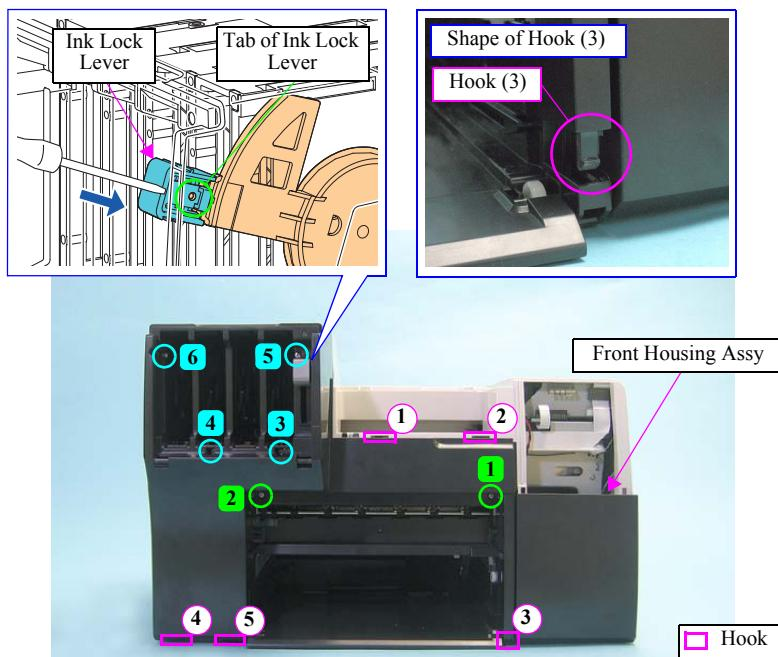

Figure 4-35. Removing the Front Housing Assy (1)
(The numbers in shown in Figure.4-35 indicate the order of tightening the screws.)
- When installing the Front Housing Assy, properly engage its hooks shown in Figure.4-35 (engage three hooks on its bottom with the Lower Housing, and engage the other top two hooks with the Upper Housing.)